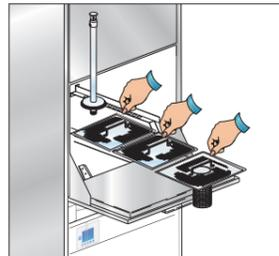

Fig.1
1. Check if the pump suction filter is properly inserted in its seat on the wash-tank bottom **Fig.1**. This filter must be cleaned every 20 wash cycles or whenever necessary. ***Do not use the appliance without the filters.** Put the surface filters in place **Fig.1**, shut the dishwasher door, turn the water valve *open* and turn the main power switch *on*. Insert the green rinse aid dispenser tube in the rinse aid container and the clear line into the detergent bottle (if fitted).